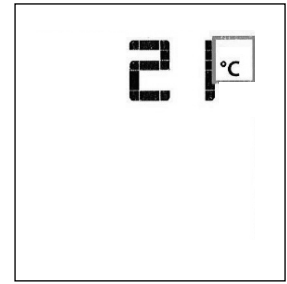

Figure 8.9. IPI is the default position.
- With the transmitter in the OFF position, press the transmitter Mode key - IPI is the default mode. Fig. 8.9.